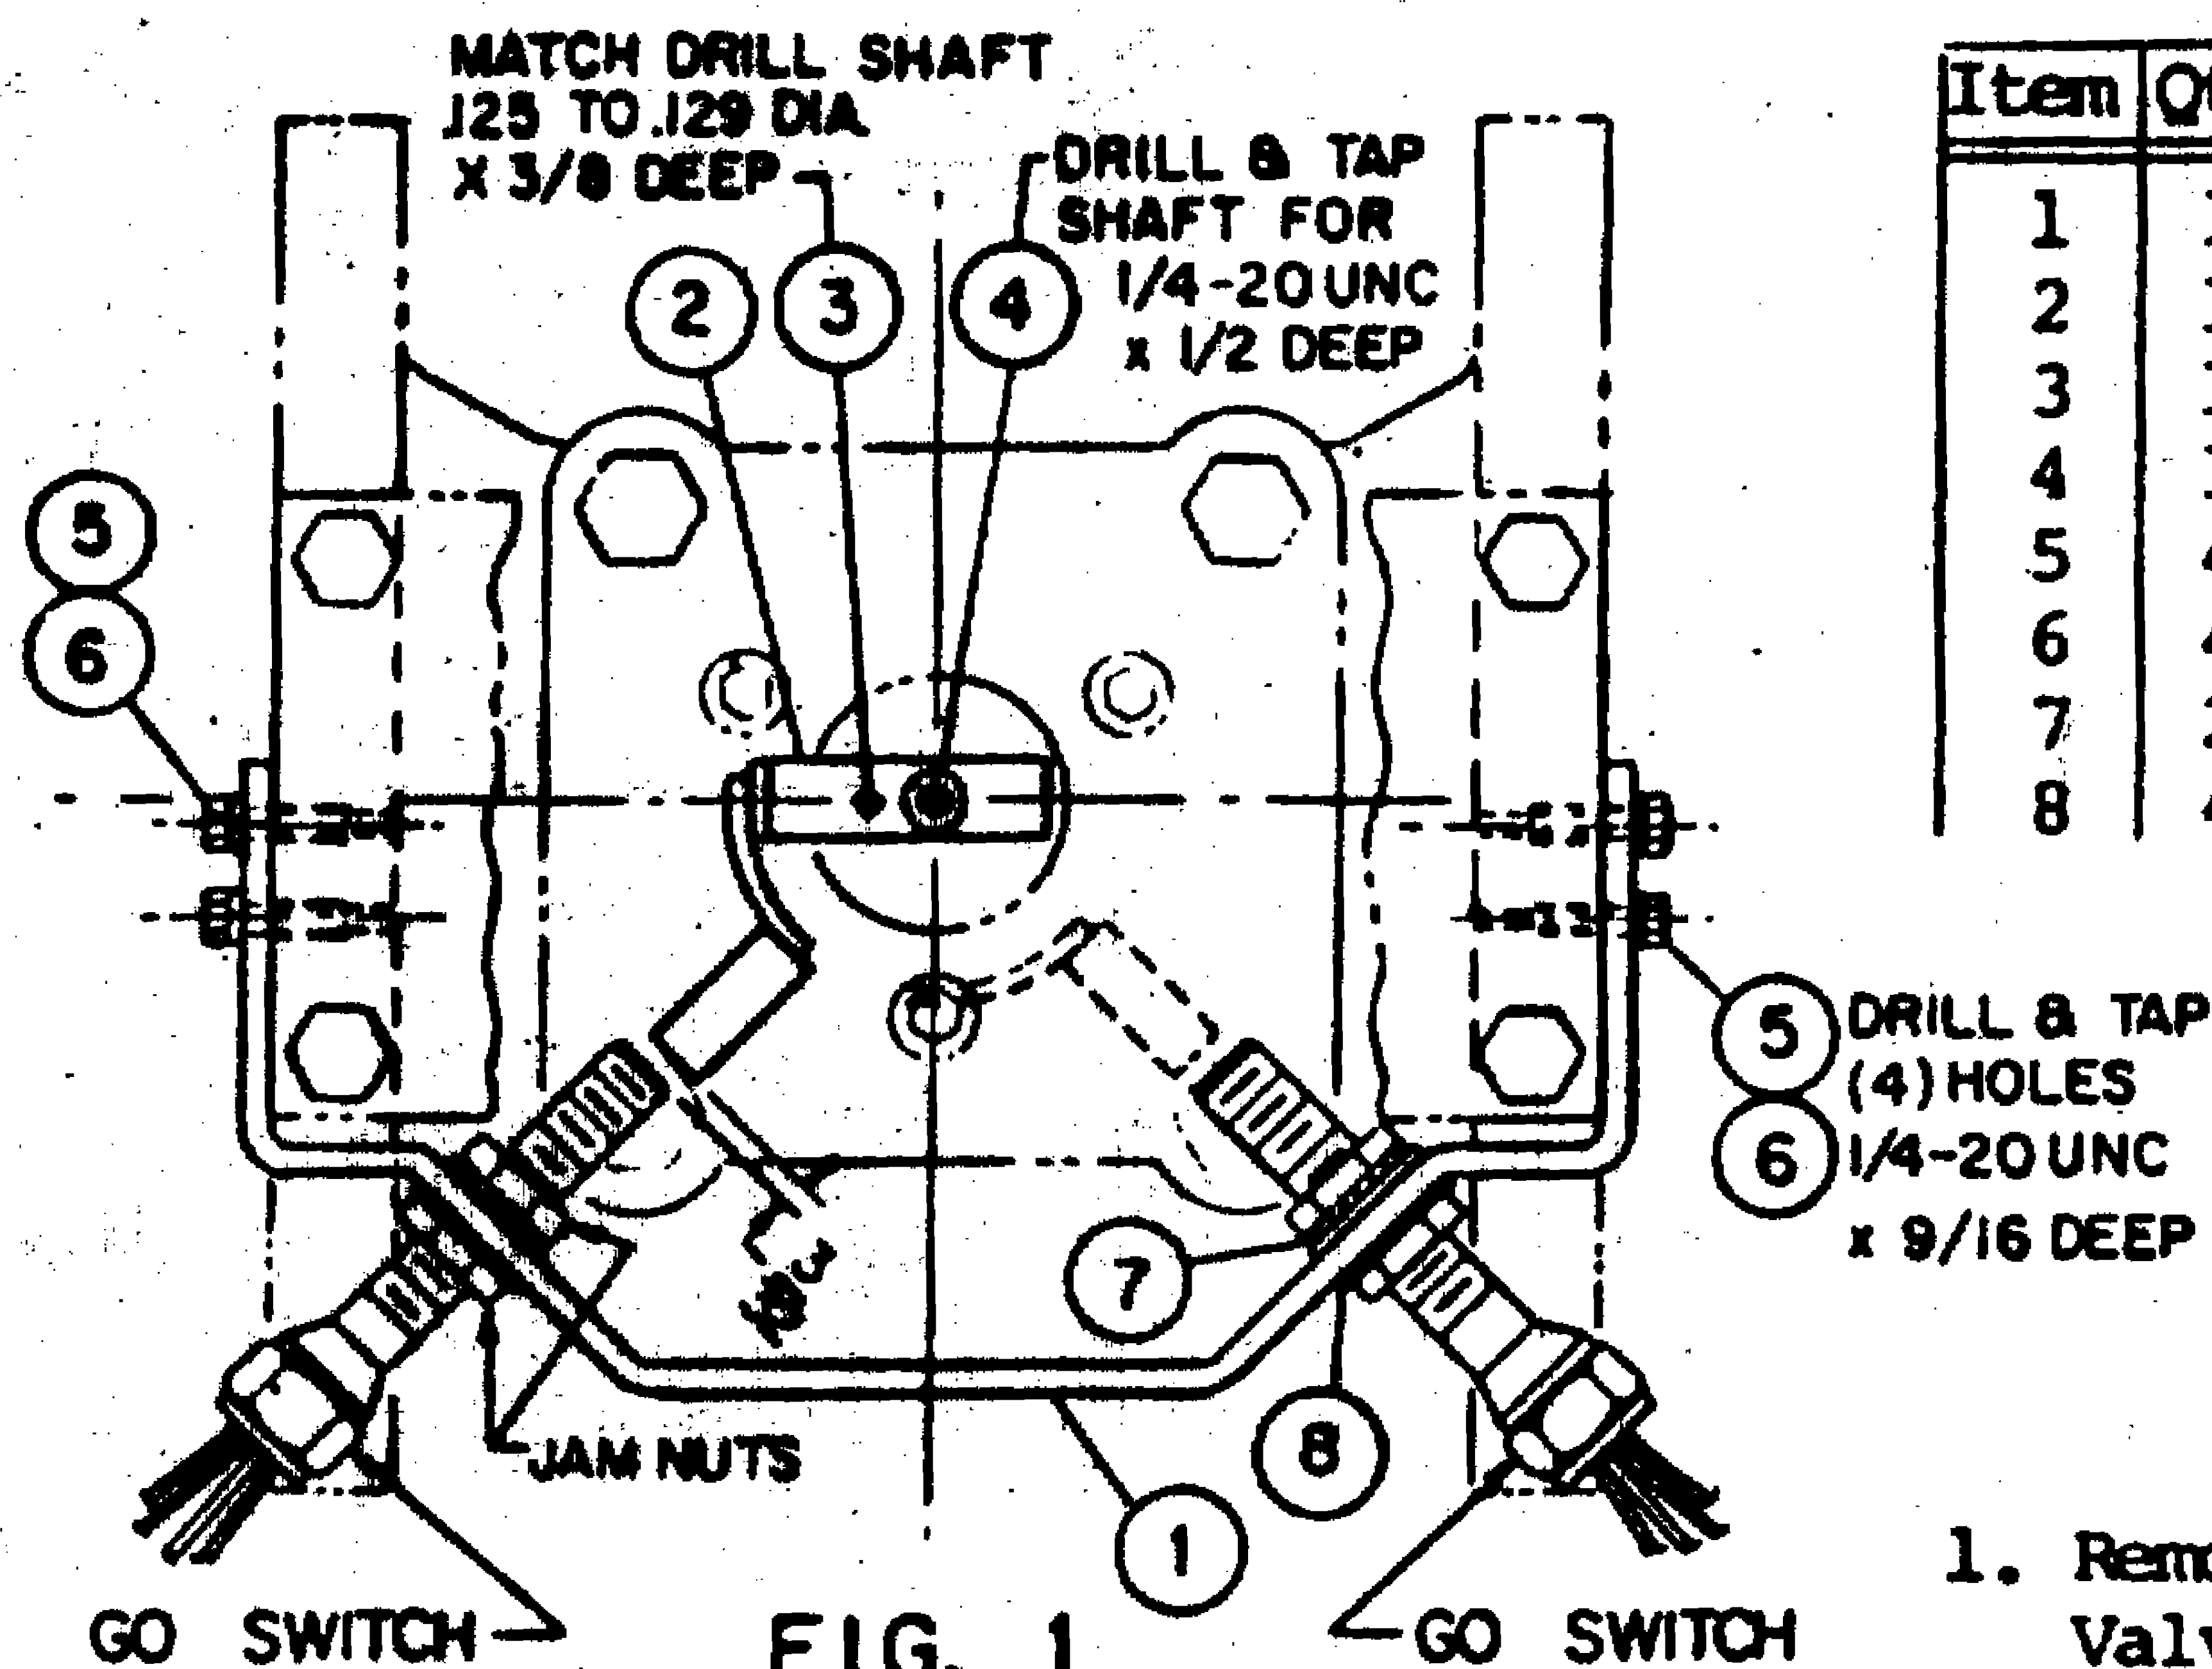

FIG. 1
4. Place Switch Activator (item 2) on shaft and secure with flat head screw (item 4). Then orient Switch Activator as shown in figure 1. Match drill shaft with hole in Switch Activator and drive rollpin (item 3) into hole to prevent rotation.
5. Fit Mounting Bracket (item 1) to sides of Actuator mounting plate support and mark location of four mounting holes, drill and tap four $1/4-20UNC \times 9/16$ dp. Then secure Mounting bracket (item 1) with items 5 & 6.
6. Insert GO Switches into slots on Mtg. Bracket (item 1) and secure with two jam nuts that come with switches and washers items 7 & 8.
7. Adjust Switches to sense Activator (item 2) in full open and full closed positions.